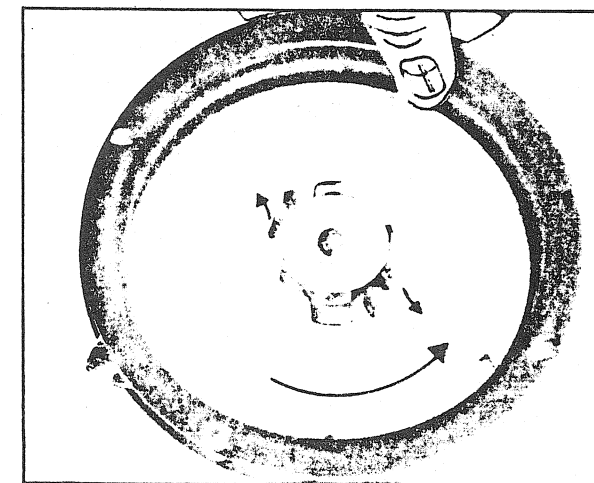

FIGURE 11
**CAUTION:** Make sure the pivoting arm assembly is correctly positioned so that the arm assembly can turn clockwise. Should the assembly rotate counter-clockwise, invert the arm assembly. (Fig. 11).